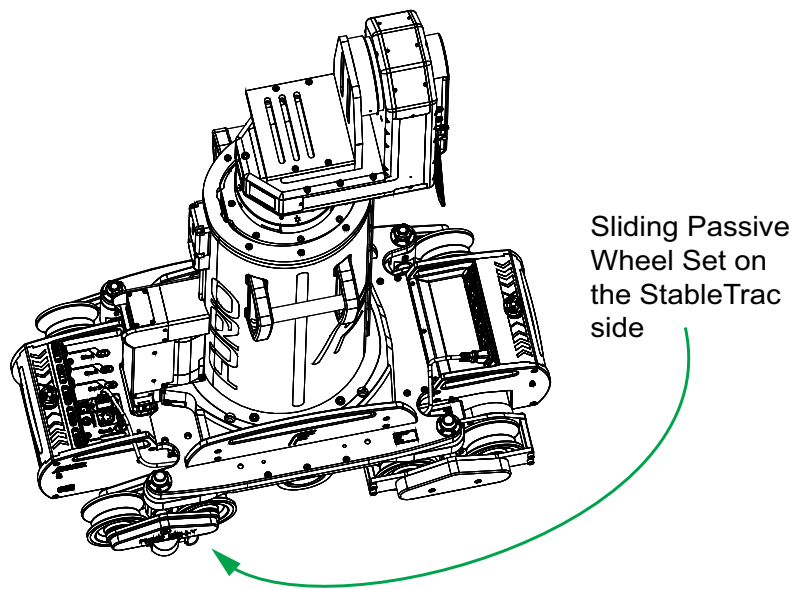

Figure 8 - Sliding Passive Wheel Set on the StableTrac Side of the Dolly
1. Have one or two people lift and hold up the end of the dolly by the handles while another removes the sliding passive wheel unit on the StableTrac side and sets it aside. Refer to **Figure 8**.